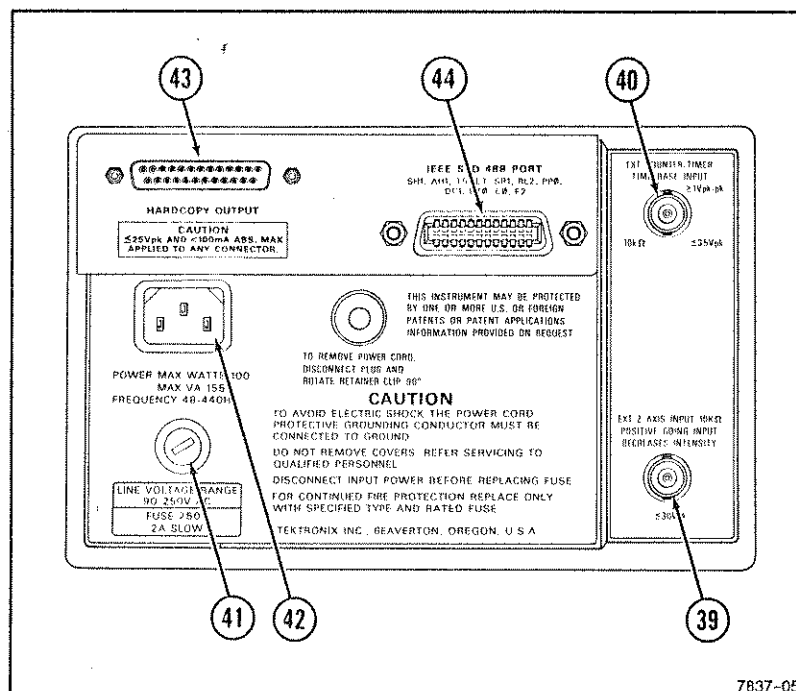

Figure 2-6. Rear panel.
Refer to Figure 2-6 for location of items 39 through 44.